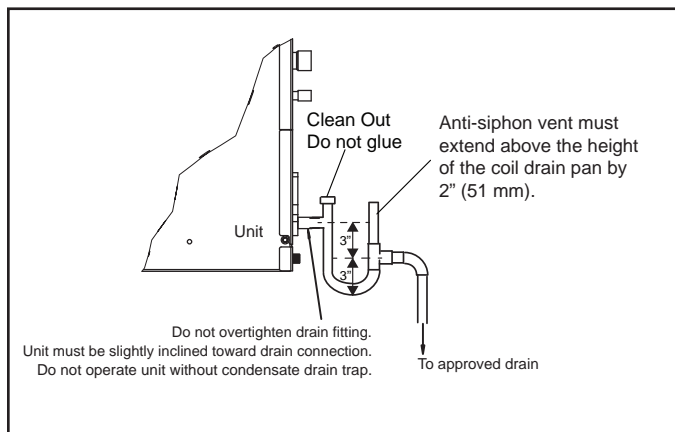

Figure 11. Condensate Drain Trap
5. Install a 3" trap in the main (primary) drain lines as close to the unit as practical (see figure 11). Make sure the top of the trap is below the connection to the drain pan to allow complete drainage of the pan.
**NOTE** - Horizontal runs must have an anti-siphon air vent (standpipe) installed ahead of the horizontal run. See figure 11. An extremely long horizontal run may require an oversized drain line to eliminate air traps.